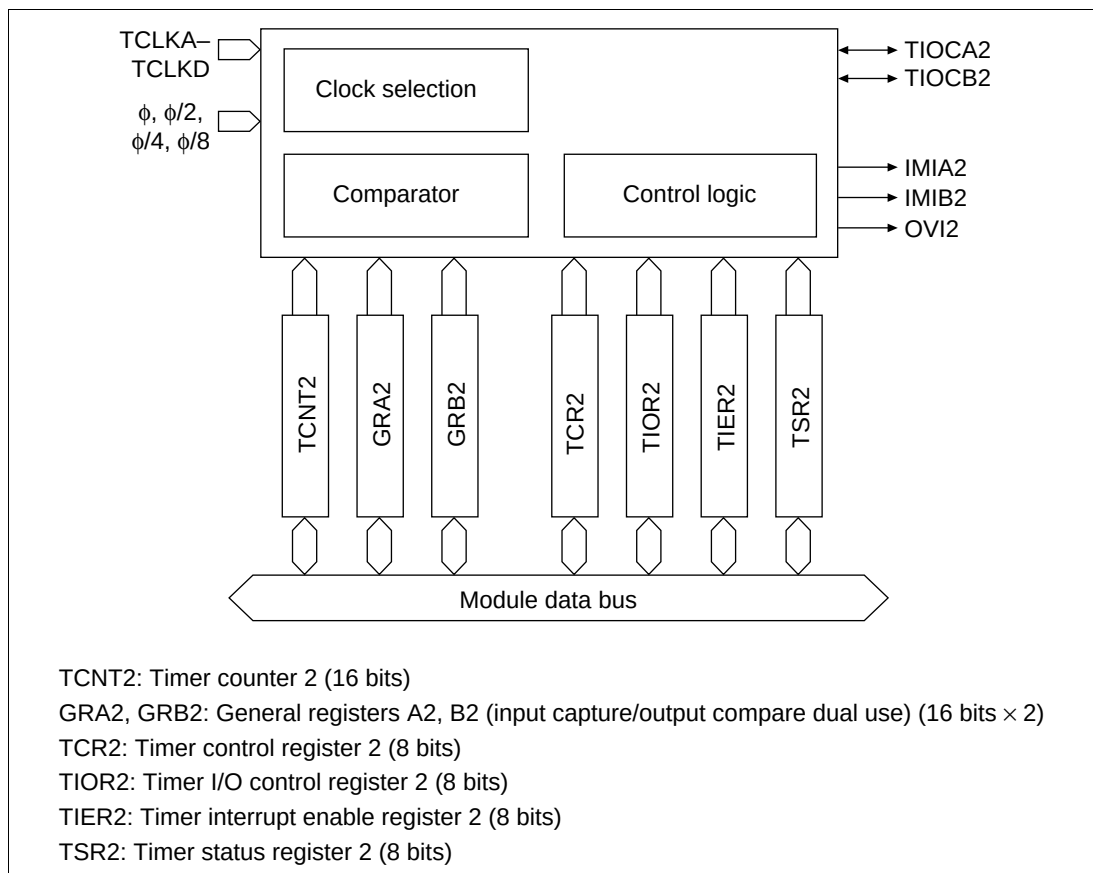

**Figure 10.3 Block Diagram of Channel 2**
**Block Diagram of Channel 2:** Figure 10.3 shows a block diagram of channel 2. Channel 2 is capable of 0 output/1 output only.